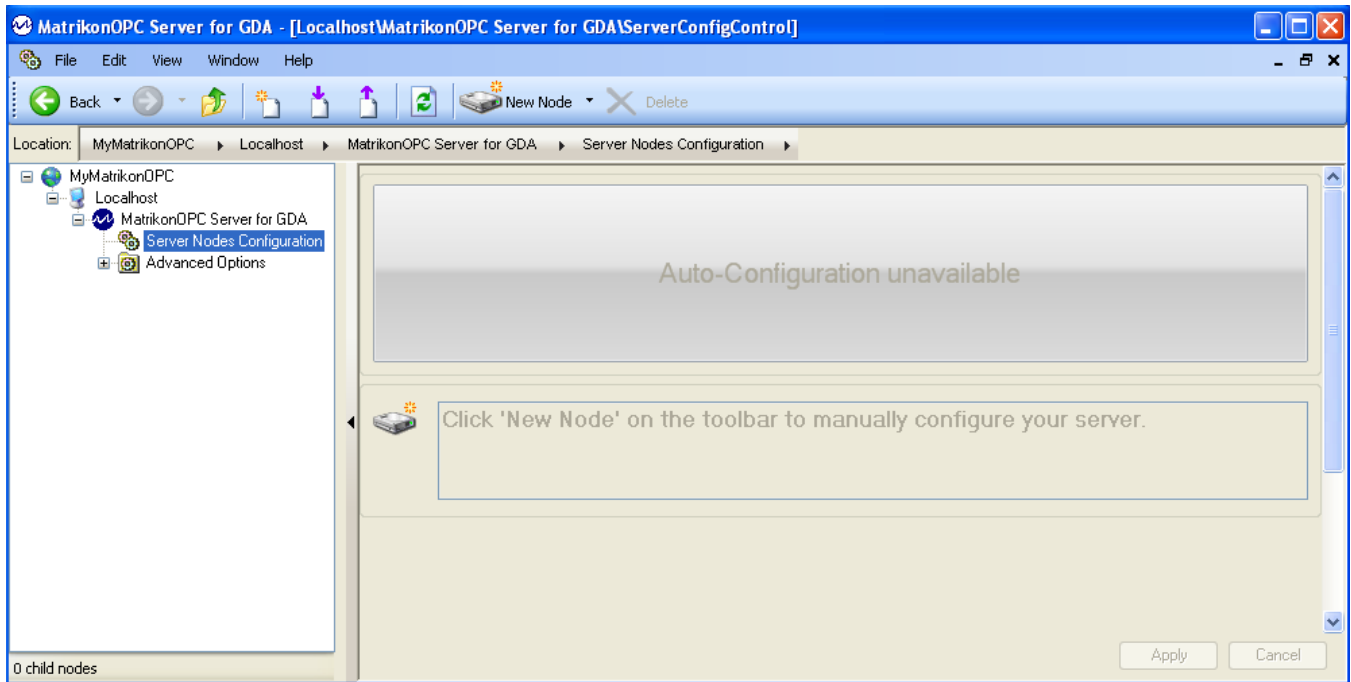

Figure 100 - GDA Server Configuration Screen
2. The server's **Configuration** window (Figure 100) is displayed.